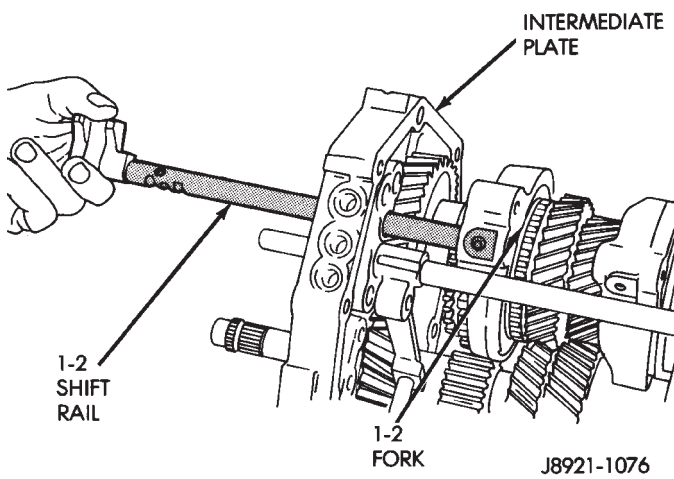

Fig. 87 Install 1-2 Shift Rail
(16) Install 1-2 shift rail through intermediate plate and 1-2 shift fork (Fig. 87).